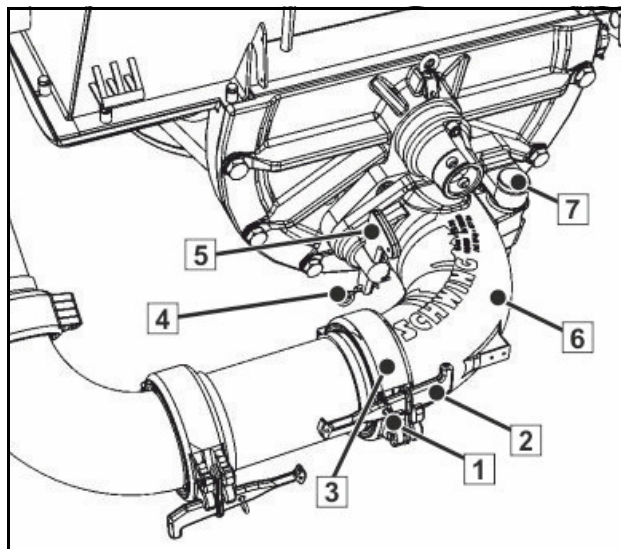
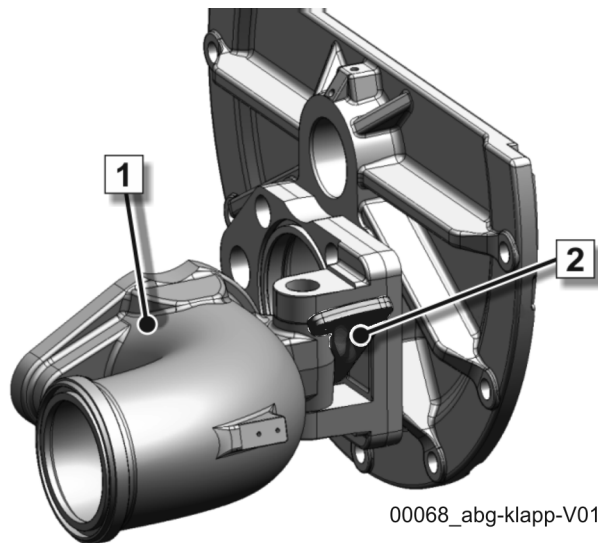

Fig. 69 Foldable outlet
Fig. 70 Wedge lock
- Pull the clip pin (1) (**Fig. 69**)
- Loosen the wedge (2)
- Remove the coupling (3)
- Pull the clip pin (4) out of the wedge (5)
- Remove the wedge (5) (**Fig. 69**) and keep it ready to use as a chock for the hinge (7)
- Fold open the outlet (6) to the right
- At an opening angle of approx. 100°, the wedge (5) (**Fig. 69**) can be wedged into the notch on the hinge, as illustrated in (**Fig. 70**).